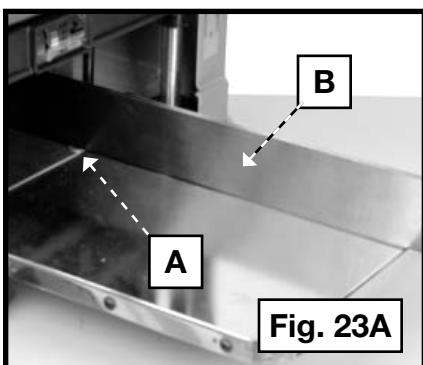
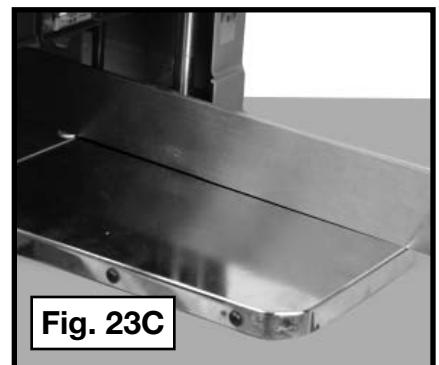

Fig. 23A
Fig. 23C
1. Place a dime (A) Fig. 23A at each end of the platen (infeed and outfeed).
2. Place a straight edge (B) across the two dimes. Extend the straight edge past the leading edge of the infeed and trailing edge of the outfeed tables.
3. If your tables are properly adjusted, the straight edge will touch both of the dimes and the edges of the tables (Fig. 23C).